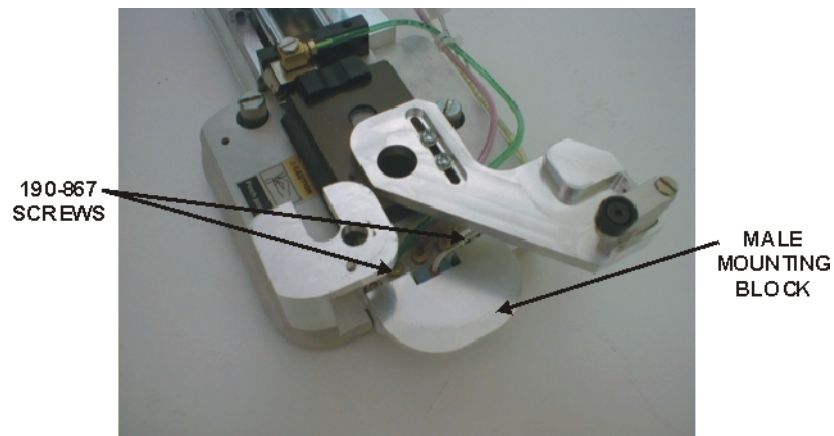

Figure 9-1
- A. Loosen (2) screws, 190-867, which secure the 619-161 male mounting block to the loading head assembly. Refer to Figure 9-1, page 9-27.
- C. Loosen the (2) setscrews, 190-513, in the 619-161 male mounting block.
- D. Loosen the (2) screws, 190-724 that secures the 619-139 female mounting block to load head interface block on the furnace assembly.